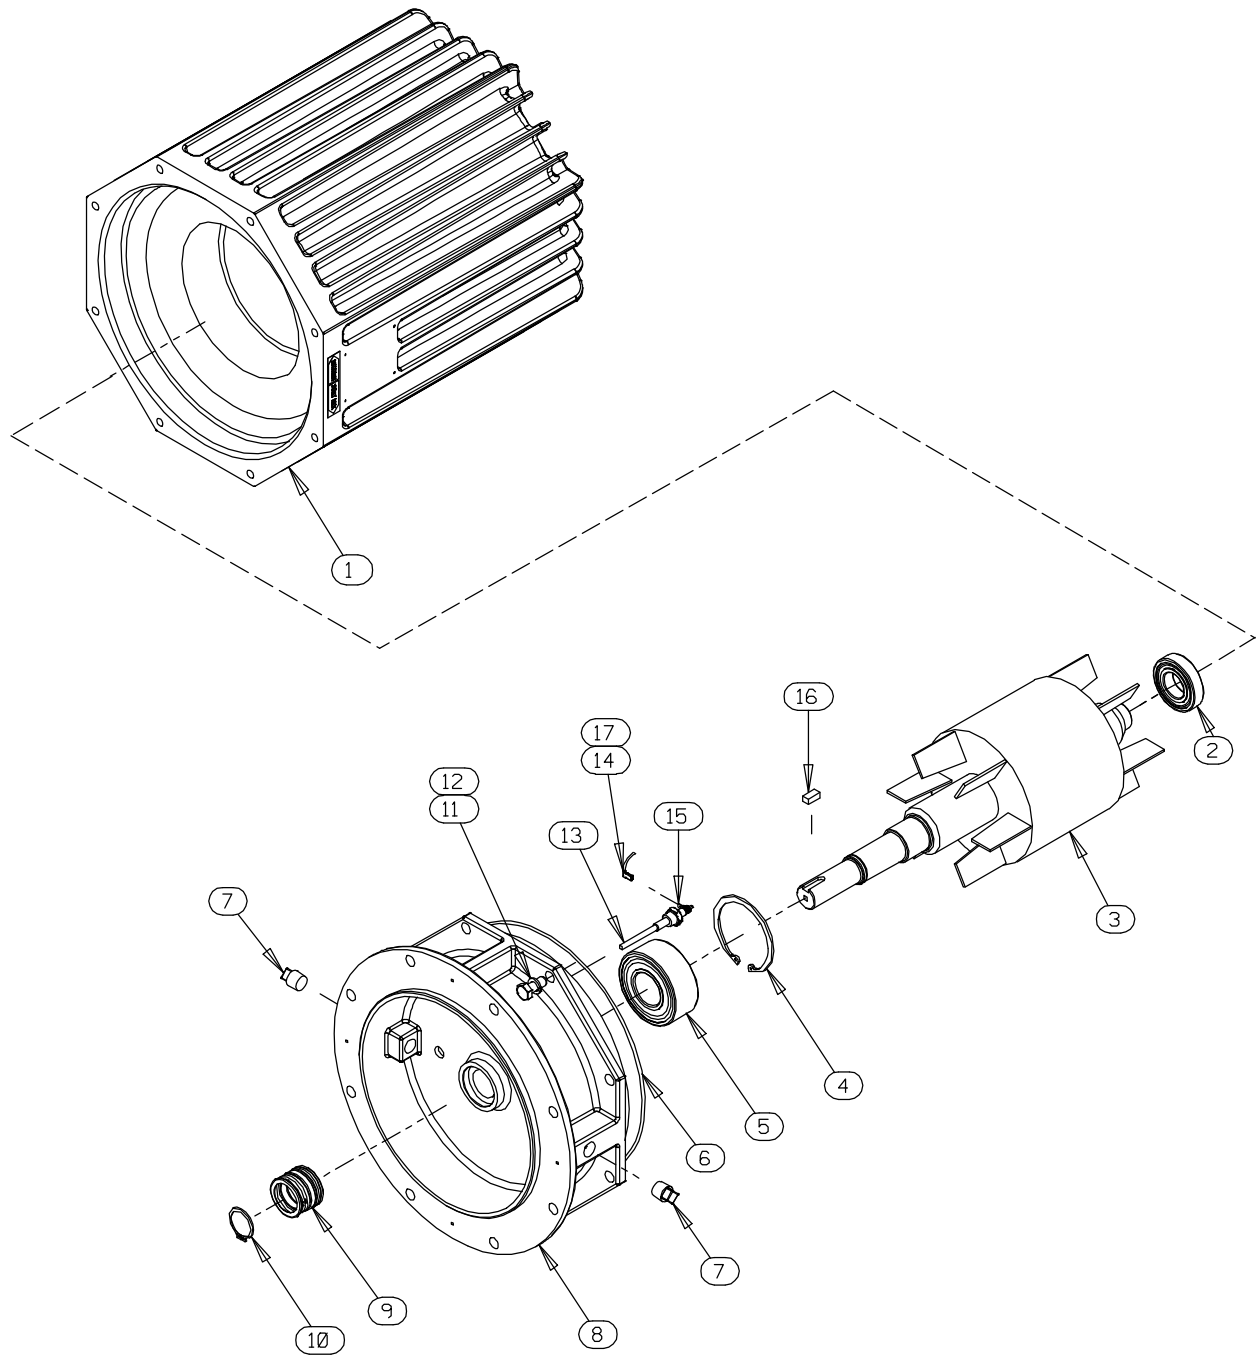

Figure E-2. 47111-837, -838 and -839 Motor Assemblies
Draining Oil From Seal Cavity**(Figure E-2)**
the impeller and “walk” the impeller off the shaft. Use increasingly larger screwdrivers (or wedges) as necessary. After the impeller comes free of the shaft, retain the impeller key (16, Figure E-2).
An alternate method of removing the stationary element is to remove the screws (16) securing the seal plate (14) to the motor assembly (6). Pry the assembled seal plate and stationary element off the shoulder of the intermediate (8, Figure E-2). Remove the O-ring (5) and press the stationary element and seat out of the seal plate from the back side.
(Figures E-2 and E-3)